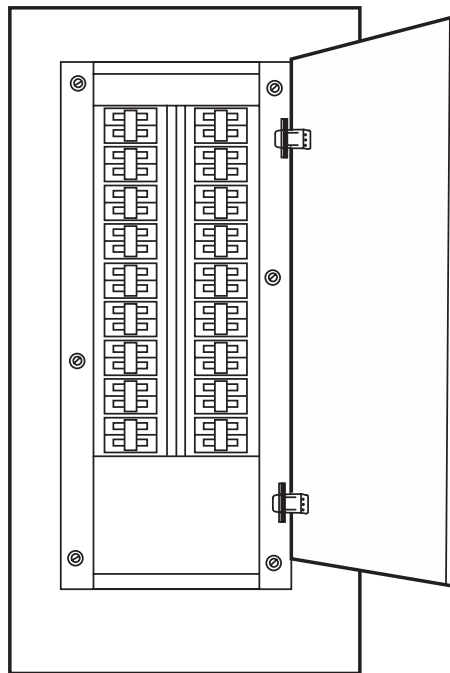

Figure 5. 120V Emergency Distribution Panel No. 1
- e. 120V emergency distribution panel No. 1 (figure 5), located in the engine room on the starboard side.